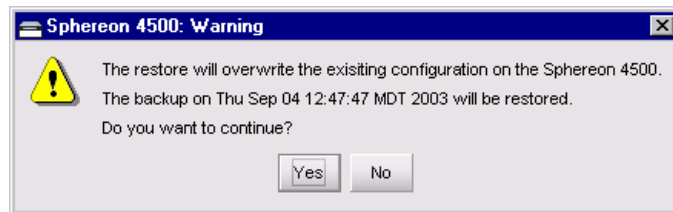

Figure 4-72 Warning Dialog Box
6. Click *Restore*. A *Warning* dialog box displays, indicating the existing configuration file is to be overwritten (Figure 4-72).